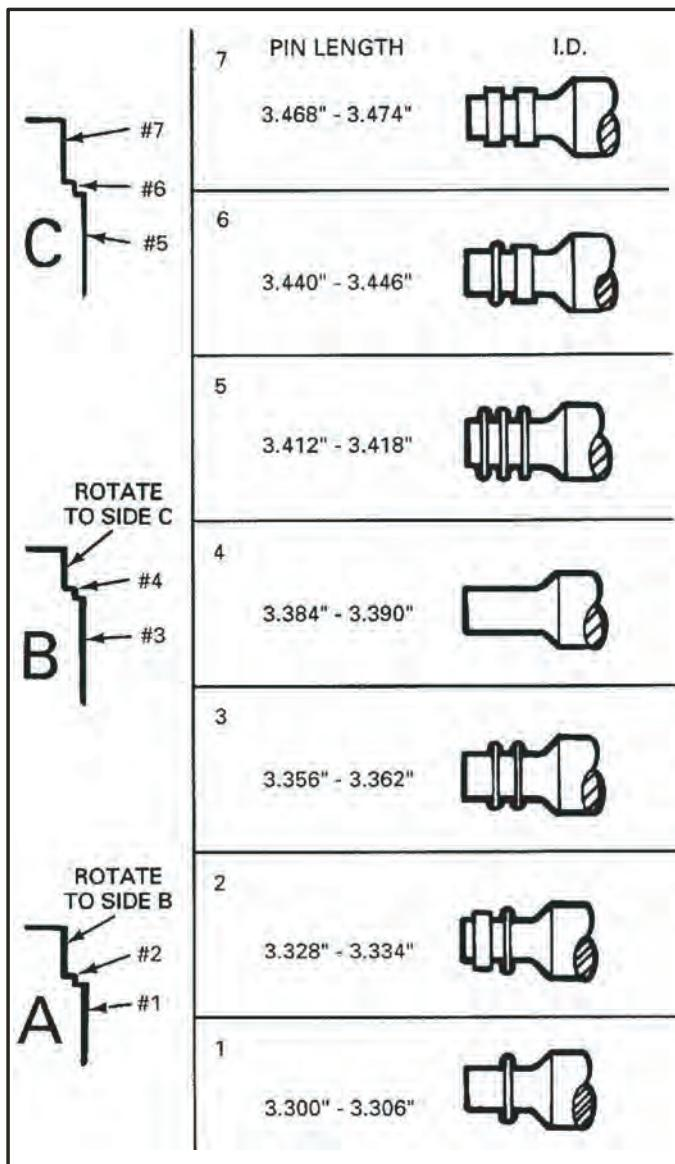

Figure 119
38. For the various pin selections see Figure 119.
39. Install new seal onto the reverse servo piston and lube with small amount of TransJel. Refer to Figure 119.
40. Install rear servo spring retainer over the servo pin selected, as shown in Figure 119.
41. Install reverse servo spring over pin and onto servo pin, as shown in Figure 119.
42. Install reverse servo piston washer, as shown in Figure 119.
44. Install new seals onto 1-2 accumulator piston, as necessary, and install 1-2 accumulator piston assembly inside of reverse servo piston as shown in Figure 119.
45. Install 1-2 accumulator spring into case bore and install reverse servo assembly, as shown in Figure 119.
46. Install servo cover gasket onto case, install the reverse servo cover and torque the six bolts to 24 Nm (18 ft.lb.) (See Figure 119).